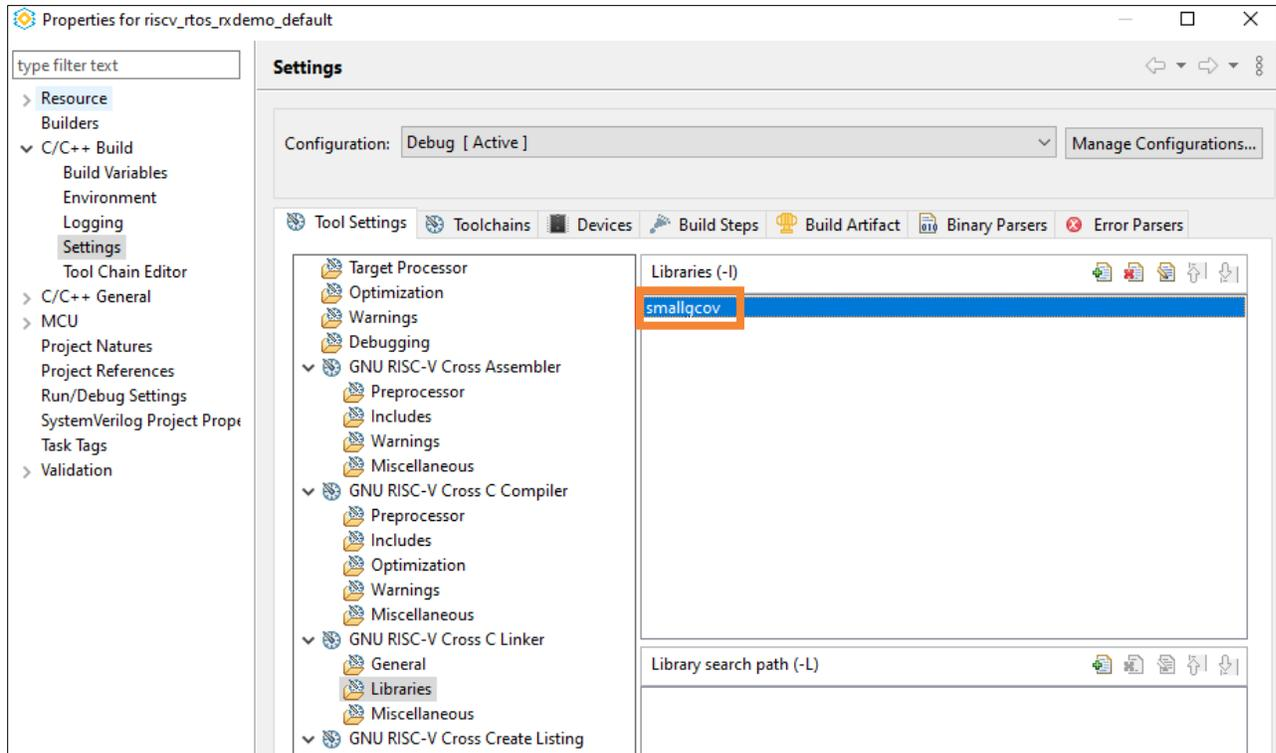

Figure 6.12. smallgcov Library
5. Select **GNU RISC-V Cross C Linker > Libraries**. Add the library, smallgcov (Figure 6.12).